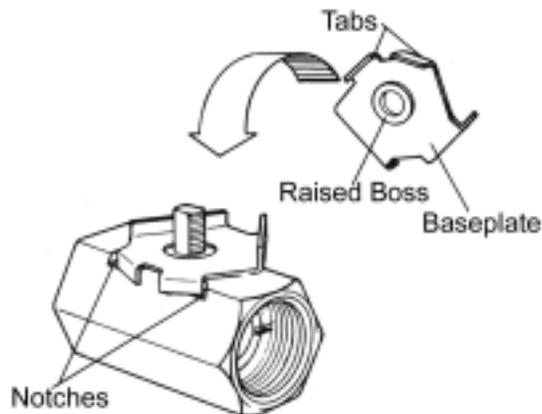

Figure 2
2. Place the 'LL' handle baseplate in position over the stem so that the raised boss enters the stem counterbore and tabs engage the stop notches in the body. (Figure 2)